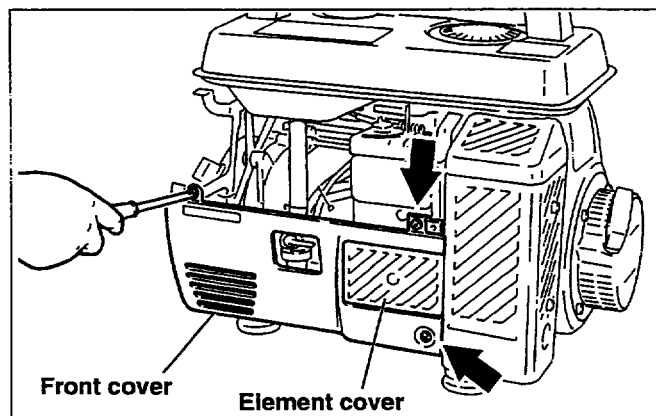

Fig. 10-35
- (1) Secure the front cover, on which fuel strainer have been mounted, with three M5 × 8 screws. (See Fig. 10-35.)
- (2) Secure the element cover with M6 × 12 screws. (See Fig. 10-35.)